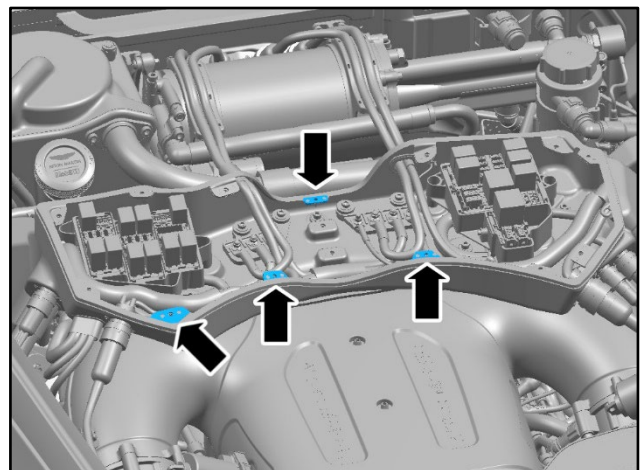

Figure 11
- 11. Examine the fuse box for any damage in the indicated areas below the bolted joints (refer to Figure 11).